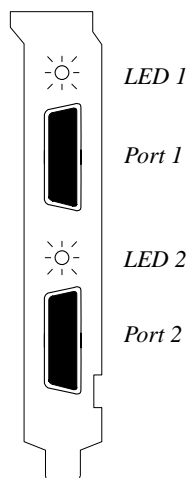

Figure 1. End Bracket
- The ports are numbered Port 1 and Port 2 as indicated in Figure 1.
The green LED adjacent to each port on the EiconCard P92—see Figure 1 on page 6—provides a convenient indication of the status of the connection on that port. The LED indicates the status as follows: